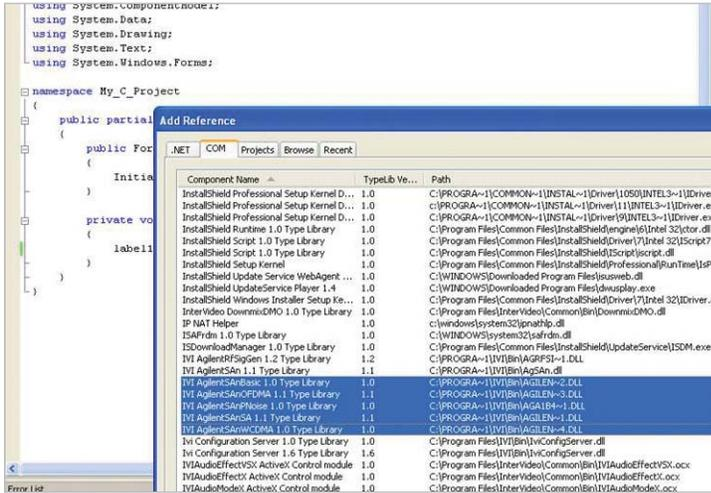

Figure 1. A single instrument may include more than one driver.
3. Select the COM tab. Scroll to the IVI section (all IVI drivers begin with IVI) and select the type library for your chosen instrument(s). Any IVI drivers you have installed should appear in this list. Select the driver(s) and press <OK>. Note that you can add multiple drivers with one selection. Note also that a single instrument will sometimes contain more than one driver. See Figure 1 as an example.